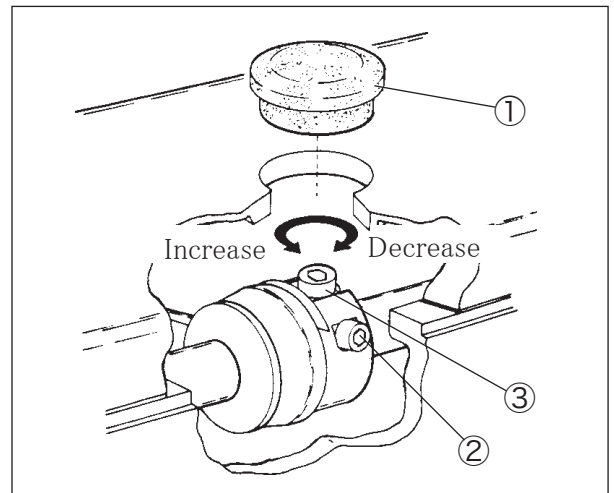

Fig. 6-41
- (3) Turn the handwheel until the adjusting screw ③ comes to the right above. (Fig. 6-41)
- (4) Turn the adjusting screw ③ to adjust the feeding amount.
- (5) Tighten the screw ② securely with a tightening torque of 2.5 N·m.